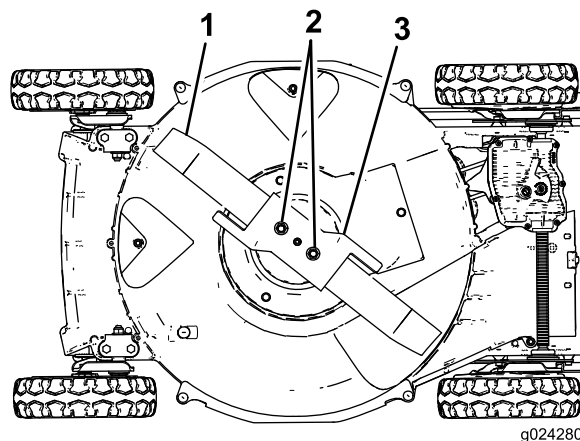

Figure 27
5. Tip the machine onto its **right** side (air cleaner up) as shown in Figure 27.